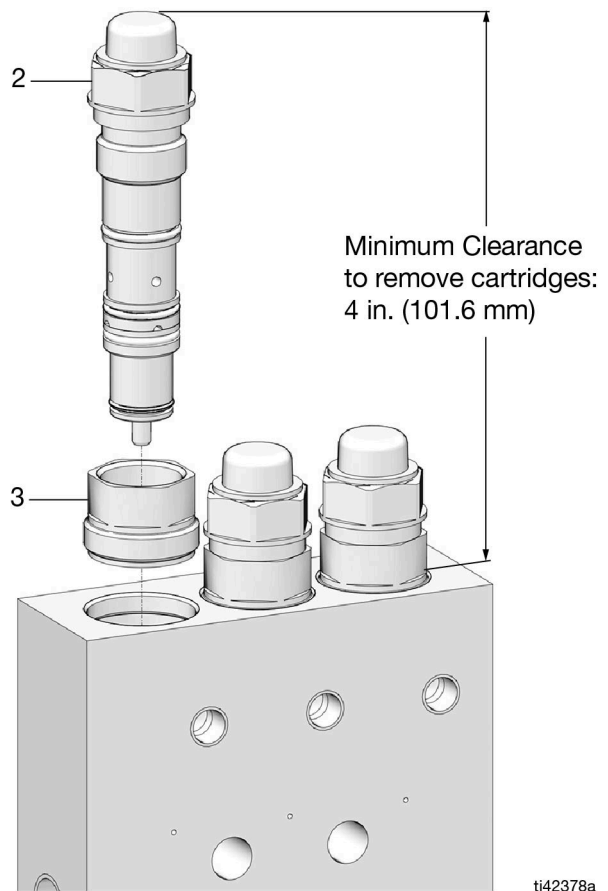

FIG. 1
3. Install output spacers (3) at each manifold port. Choose a spacer color to match the desired output, (See **Output Spacer Kits**, page 7) (FIG. 1) and torque spacers to 60 ft-lb (81.3 N•m).
4. Lubricate the external cartridge seals then install the cartridges (2), see FIG. 1, and torque to 40 ft-lb (54.2 N•m).